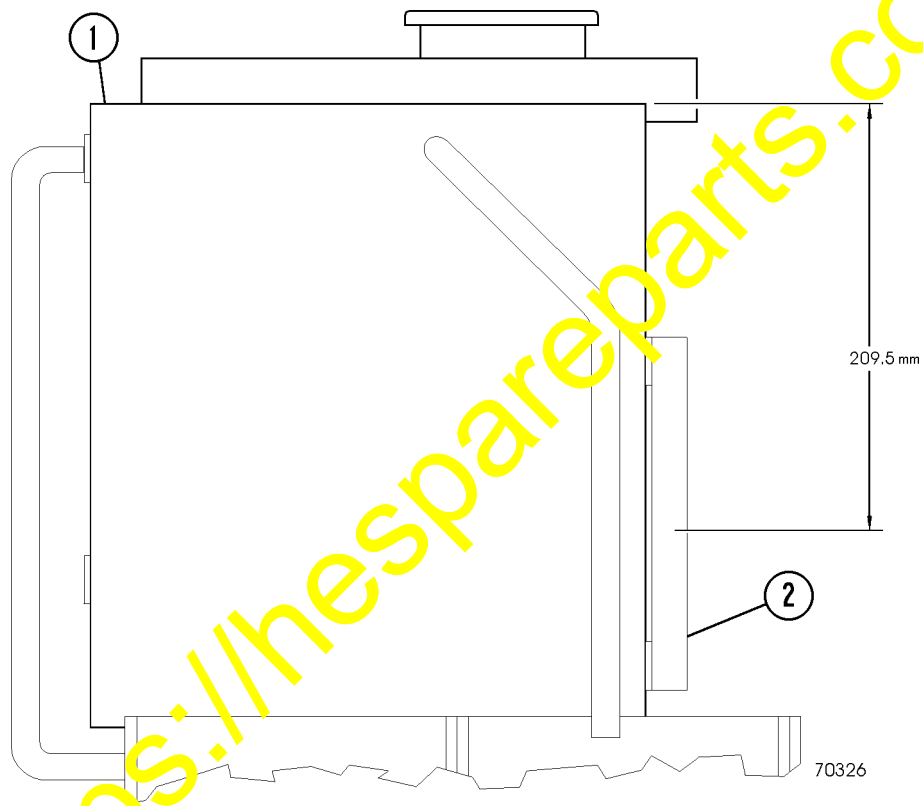

FIGURE 2. 930E RADIATOR
On 930E trucks (serial number suffix AFE48-A through AFE48-BK), the sight gauge should be modified so the proper radiator filling height will be correct when filled using the procedure given above. Refer to page 3 (Figure 2) for rework instructions.
2. Measure and mark at dimension shown in Figure 2.